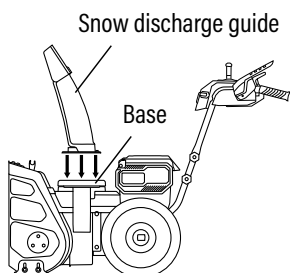

Fig. 3A
1. Put the snow discharge guide on the base and make sure the assembly holes in the bottom of the snow discharge guide aligns with the holes in the base. (Fig. 3A)